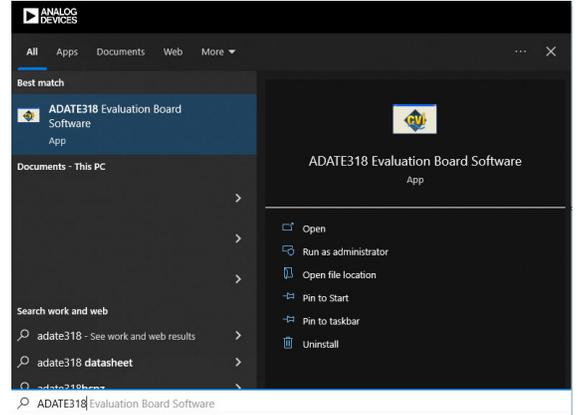

Figure 3. Windows Search
- ▶ Search for the **ADATE318 Evaluation Board Software** using the Windows search feature, and then select the **ADATE318 Evaluation Board Software** in the results pane (see Figure 3).